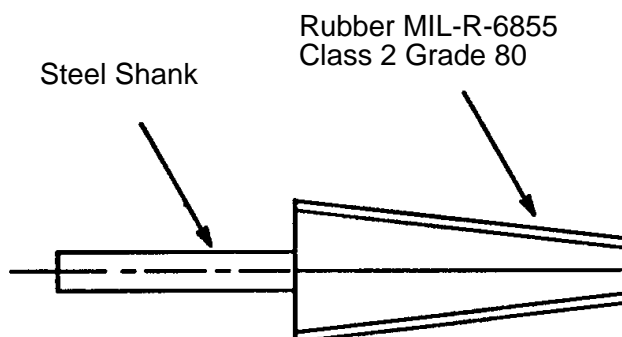

Figure 9 - TS.561.35.10 Hole Deburring Tool
5.3.9 Hole Deburring Tool (see Figure 9)